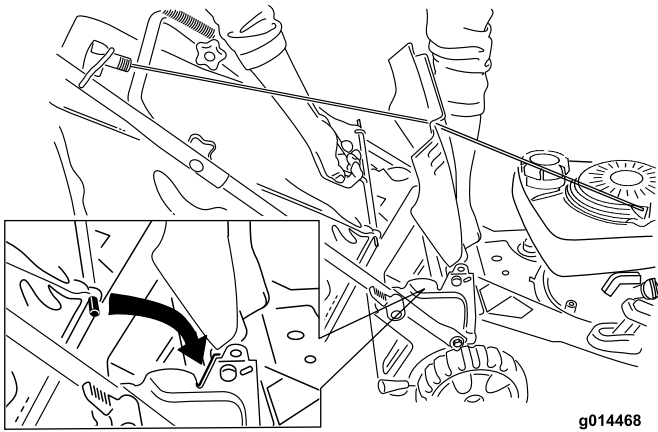

Figure 21
2. Raise and hold up the rear door, install the bag in the notches, and lower the rear door (Figure 21).